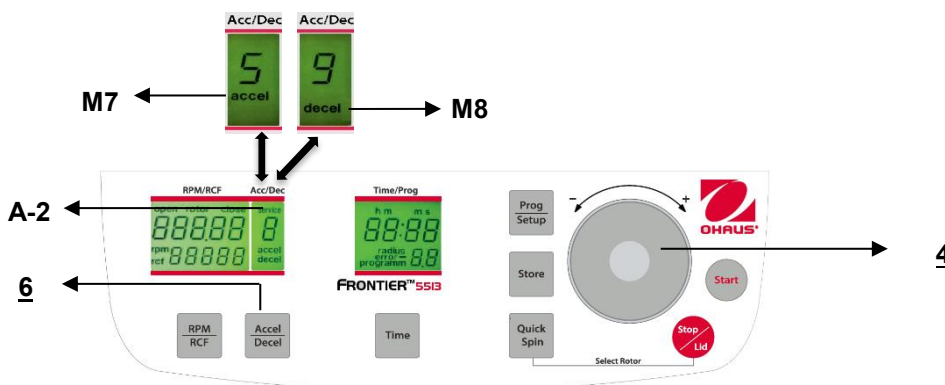

Figure. 18
This function is activated through the key "**Accel/Decel**" (6) (refer to figure 18).